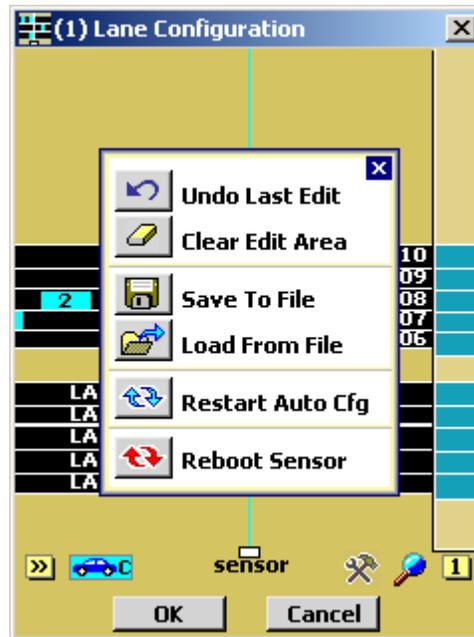

Figure 25 – Lane Configuration screen
3. Once the “Lane Configuration” window appears, click the **Tools** icon  and select **Clear Edit Area** (see Figure 25 on the next page).